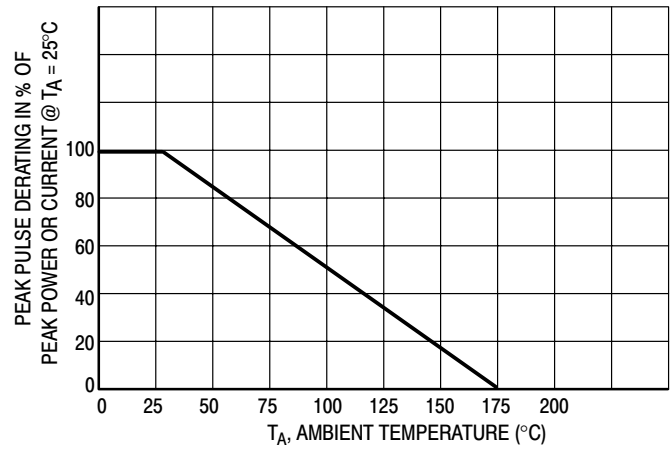

Figure 2. Pulse Derating Curve
1. Nonrepetitive current pulse per Figure 5 and derated above  $T_A = 25^\circ\text{C}$  per Figure 2.